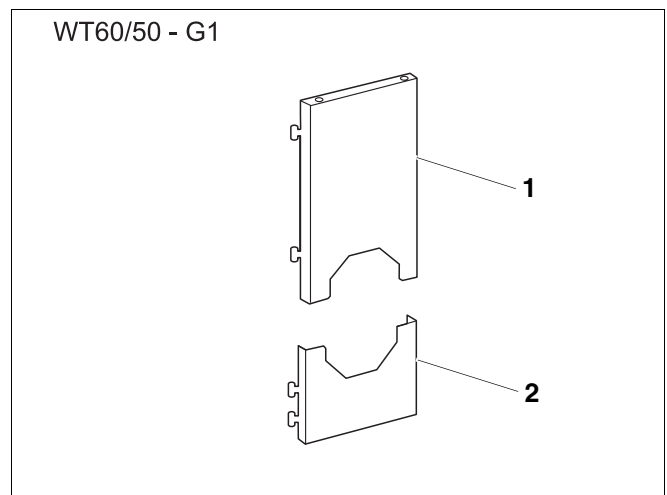
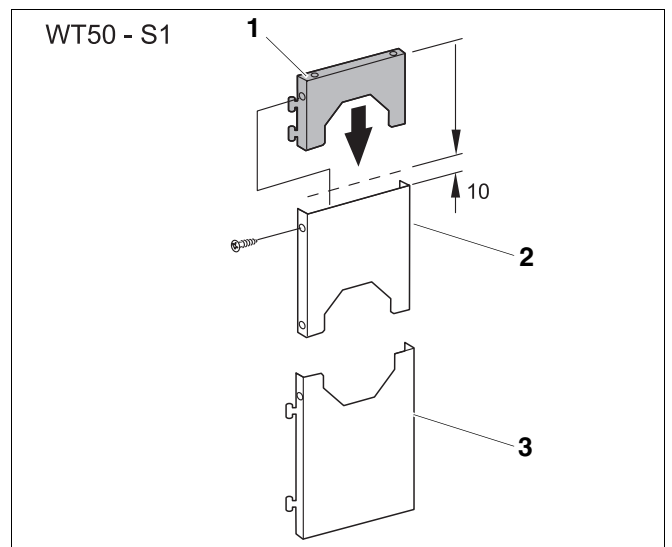
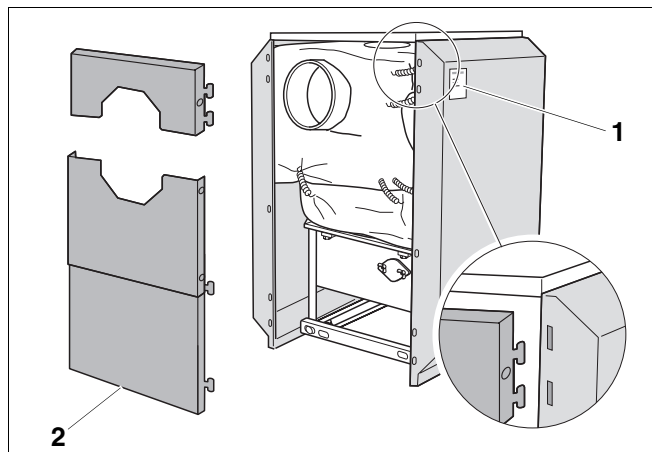

Fig. 16 Front panel (WT60-G1 and WT50-G1)
Fig. 18 Preassembling front panel (WT60-S1 and WT50-S2)
Fig. 19 Fitting the front panel (schematic)
- First hook the upper front panel over the flue outlet by inserting the hooks into the 4 slots on the right and left folded edges on the side panels (Fig. 19, page 18).
- Hook the preassembled lower front panel under the flue outlet by inserting the hooks into the 4 slots on the right and left folded edges on the side panels (Fig. 19, page 18).
Fitting takes place as shown in Fig. 16, without any need for pre-assembly.
- First hook the lower front panel (Fig. 16, **Item 2**) under the flue outlet by inserting the hooks into the 4 slots on the right and left folded edges on the side panels (Fig. 19, page 18).
- Hook the upper front panel (Fig. 16, **Item 1**) over the flue outlet by inserting the hooks into the 4 slots on the right and left folded edges on the side panels (Fig. 19, page 18).
- Preassemble upper front panel and screw together using 2 self-tapping screws (Fig. 18).
- Push upper edge of inner part (Fig. 18, **Item 1**) over the part (Fig. 18, **Item 2**) up to the dotted line, until the holes in the folded edge overlap.
- First hook the lower front panel (Fig. 18, **Item 3**) under the flue outlet by inserting the hooks into the 4 slots on the right and left folded edges on the side panels (Fig. 19).
- Hook the preassembled upper front panel over the flue outlet by inserting the hooks into the 4 slots on the right and left folded edges on the side panels (Fig. 19).
Data plates 2 and 3 are enclosed with the technical documentation. Data plate 2 must be compared with the data plate on the machine block and attached to the casing as the specific conditions will allow (Fig. 19, **Item 1**).